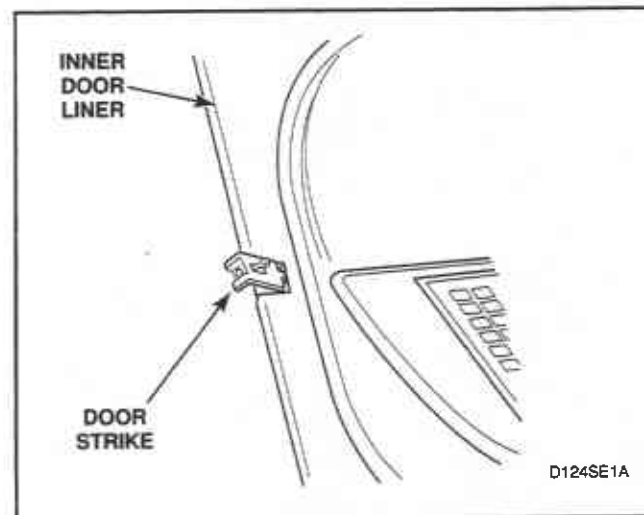

Figure 11
- Remove door strike from door liner, *Figure 11*, and reinstall it on opposite side.